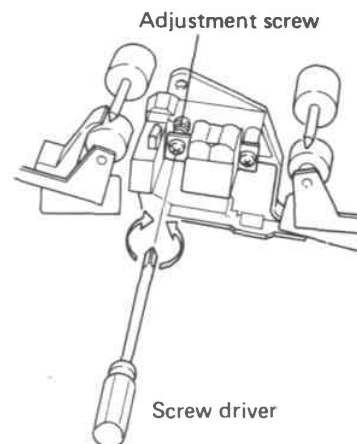

Fig. 9-2 Head azimuth adjustment
3. Replay the -20dB part of the 10kHz test tone on the STD-341A test tape. Turn the head azimuth adjustment screw until the output from both L and R channels becomes a maximum (Fig. 9-2).